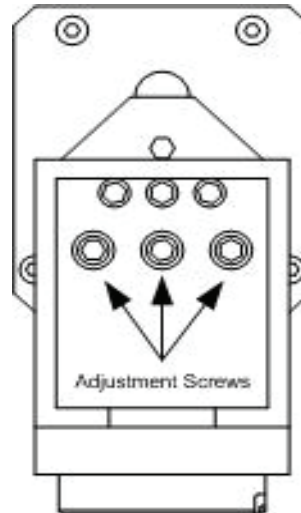

Figure 2. Fixture.
(8) Apply total weight indicated at the bottom of the **Applied Mass** section to the calibration arm.
(9) Level arm by adjusting the three screws located in the fixture housing, illustrated in figure 2.
- (8) Level arm by adjusting the three screws located in the fixture housing, illustrated in figure 2.
- (9) Steady mass making sure that no oscillation can be observed in the level bubble.
- (10) Select the **Record Calibration Point** button.
- (11) Repeat technique of (7) through (10) above for the 60 percent and 100 percent applied mass load to calibration arm.